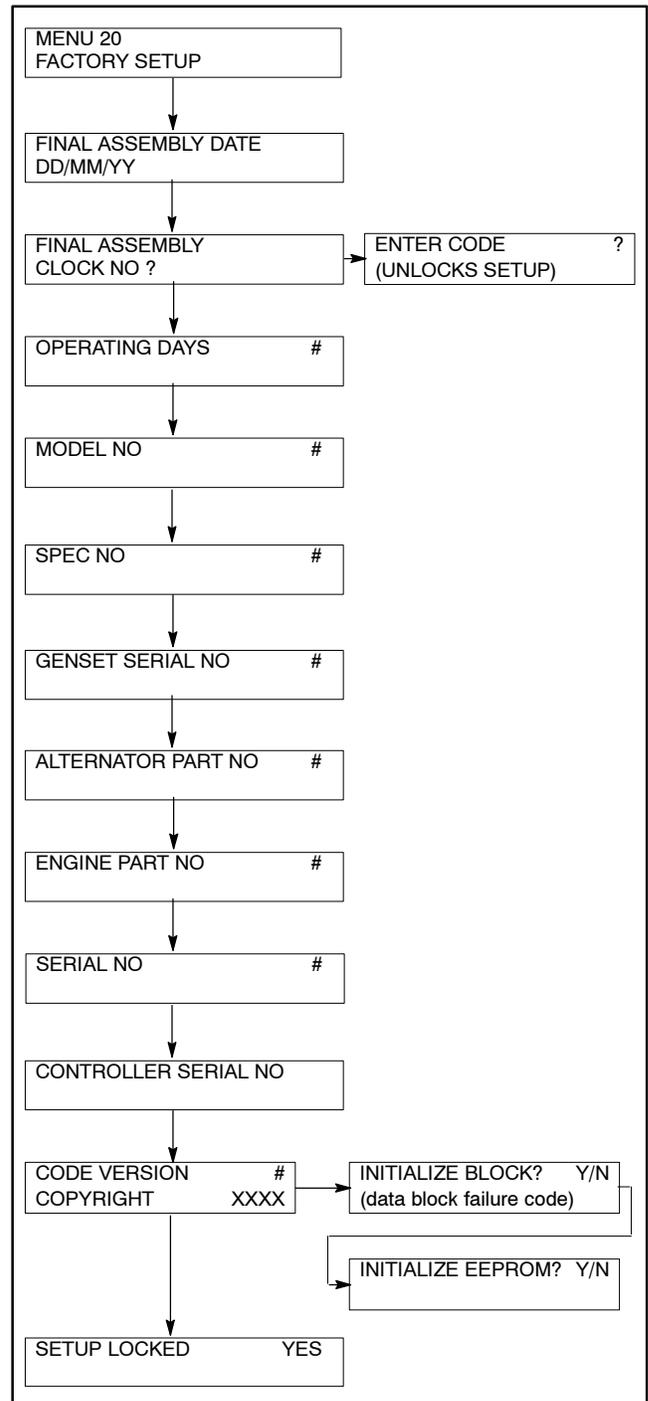

Figure 3 Menu 20, Factory Setup (Version 2.10 or Higher)
1.4 Use the controller keypad to go to Menu 20, Factory Setup. See Figure 3 for displays.